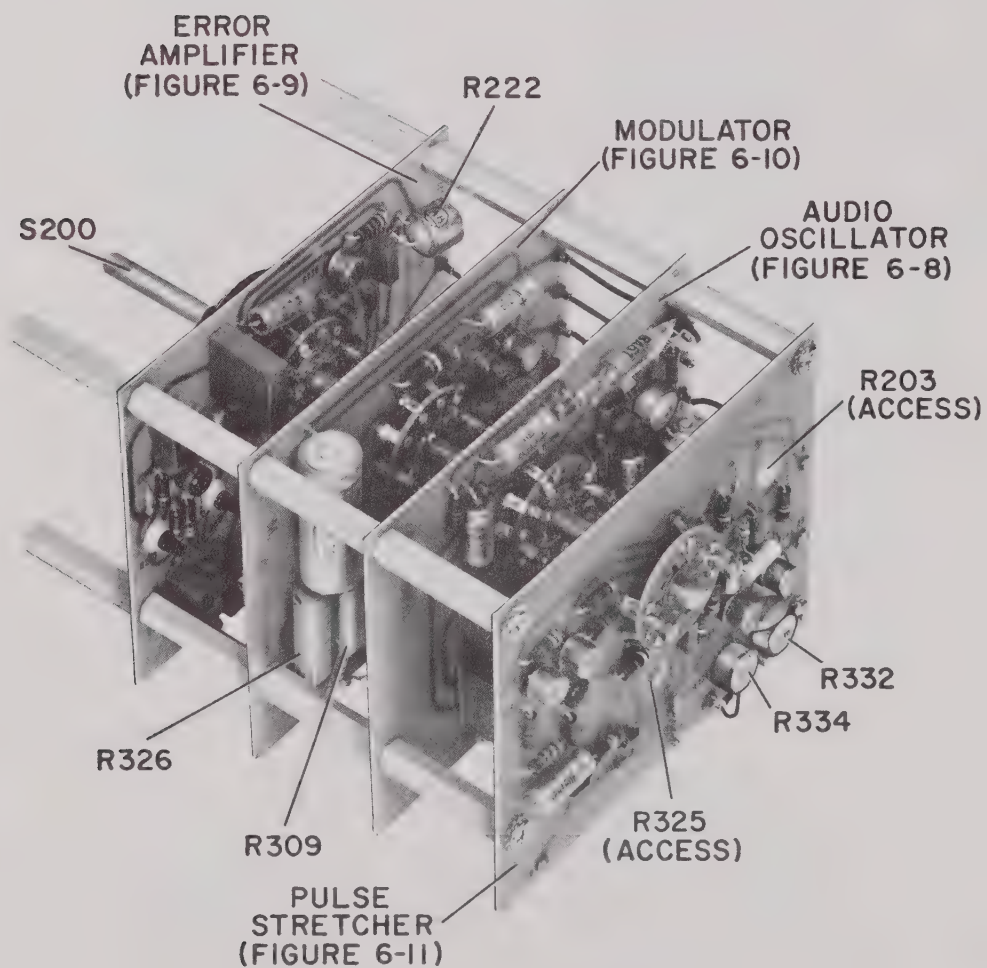

Figure 5-16. Modulator Assembly.
5.7 MODULATOR SERVICING (FIGURE 5-16).
The Modulator Assembly (see Figure 5-16) consists of an assembly of four etched-circuit boards and includes the modulation selector switch, S200. The front board is the Error Amplifier, which compares the output from the Detector Preamplifier (in the RF Assembly), or from the Pulse Stretcher (rear board), with a reference signal from the Modulator Board (second from front). The third board contains the 1 kHz audio oscillator. All circuits on the Modulator Board (symbol series 301 to 329) and on the Error Amplifier (symbol series 221 or 242) are required for CW and all other modes of modulation, whereas the active elements on the Audio Oscillator (symbol series 201-219) are used only in the INT 1-kHz mode, and those on the Pulse Stretcher (symbol series 331-359) are used only the